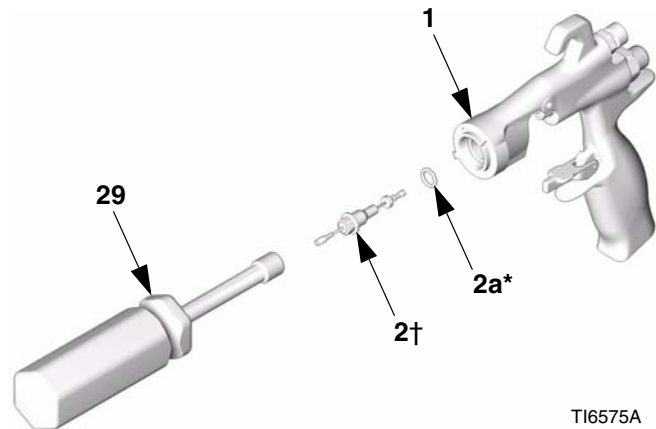

FIG. 43
5. Slide the seat (10) onto the shaft (9). Be sure that the tapered end of the seat is toward the thicker end of the shaft. Carefully insert the shaft (9) and seat (10) in the air valve (8\*).
6. Install the two springs (15 and 19). Screw the spring cap (11) into the back of the gun body. Torque to 175-185 in-lb (20-21 N•m).
7. Lightly lubricate the needle assembly o-rings and shaft where the packing slides. Be sure that the o-ring (2a\*) is in place in the gun body (1).
8. Insert the fluid needle assembly (2) into the front of the gun. Use the nut driver (29) to screw the fluid needle assembly into the gun body (1) and torque to 50-60 in-lb (6-7 N•m). See FIG. 43.